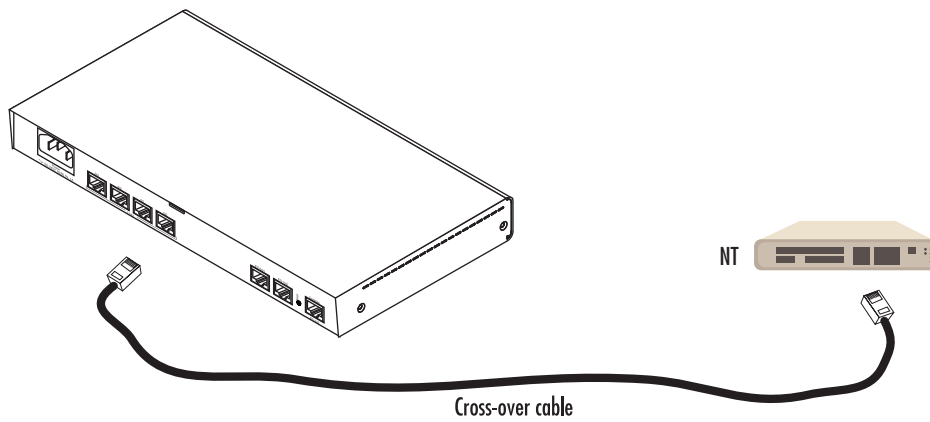

Figure 13. Connecting an E1 PRI port to an NT1
The E1 PRI is usually connected to a PBX or switch—local exchange (LE). Type and pin outs of these devices vary depending on the manufacturer. In most cases, a straight-through RJ-45 to RJ-45 can be used to connect the PRI with a PBX. A cross-over cable is required to connect to an NT device, as illustrated in figure 13 on page 58.